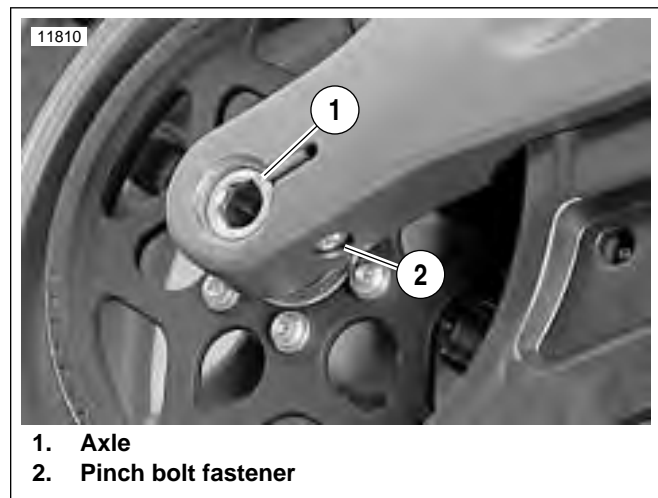

Figure 2-26. Rear Wheel Mounting, Right Side
7. See Figure 2-26. Tighten rear axle (1) to 23-27 ft-lbs (31.2-36.6 Nm), back off two full turns and then retighten to 48-52 ft-lbs (65.1-70.5 Nm).
8. Tighten pinch fastener (2) on right side of swingarm to 40-45 ft-lbs (54-61 Nm).